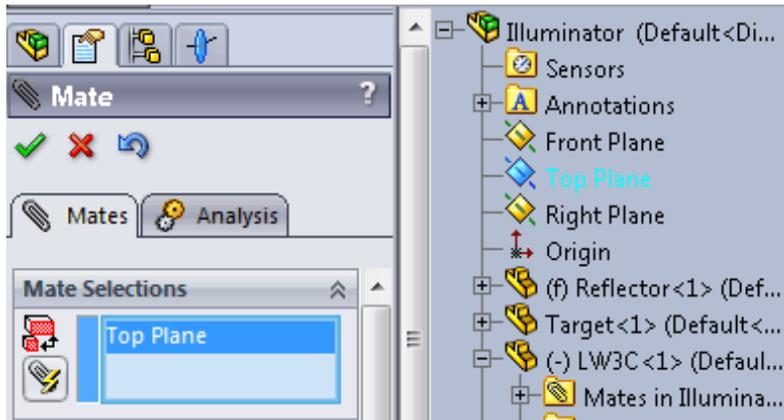

Figure 75 Mate PropertyManager and Illuminator tree showing highlighted Top Plane
- 9 Click to expand the **LW3C** node on the tree, and click **Top Plane** under this node. See Figure 75.